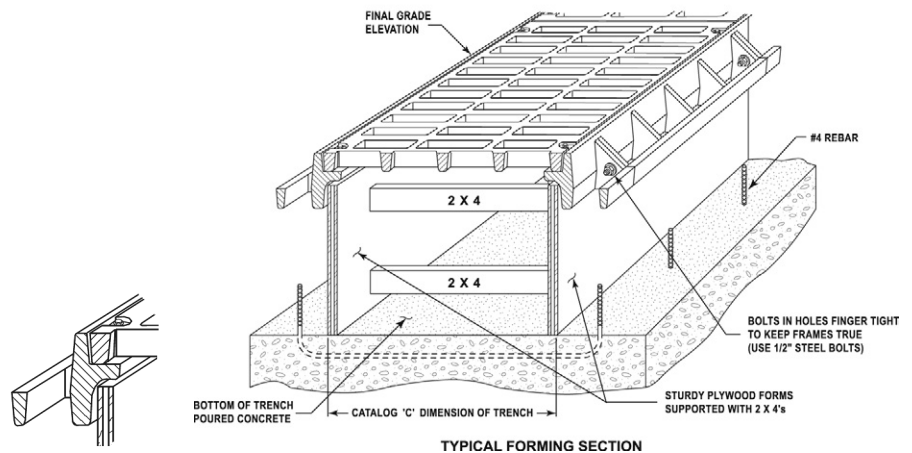

Figure 7
- Use Figure 7 as a guide.
- Reinforcing bar can be installed per Figure 7.